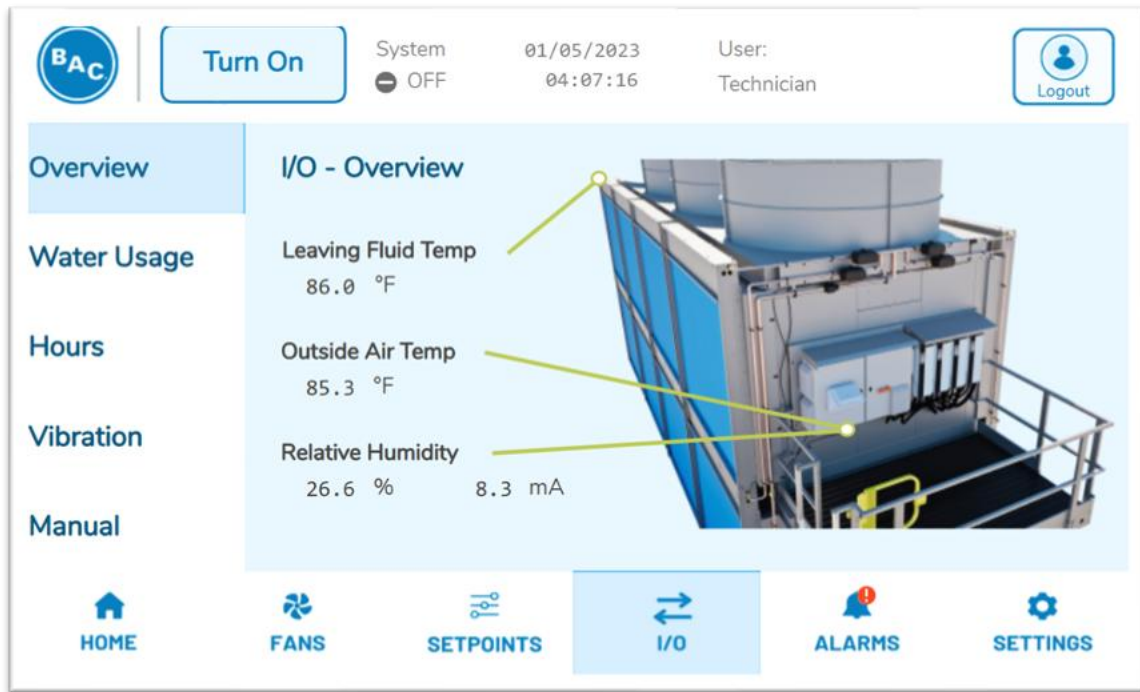
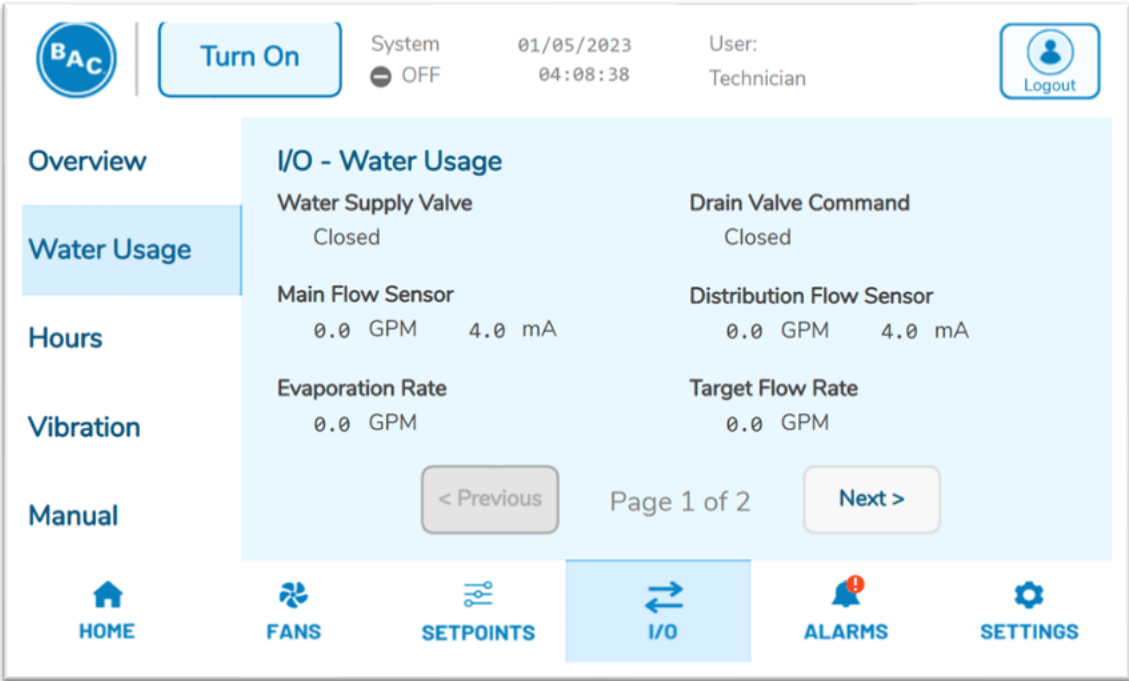
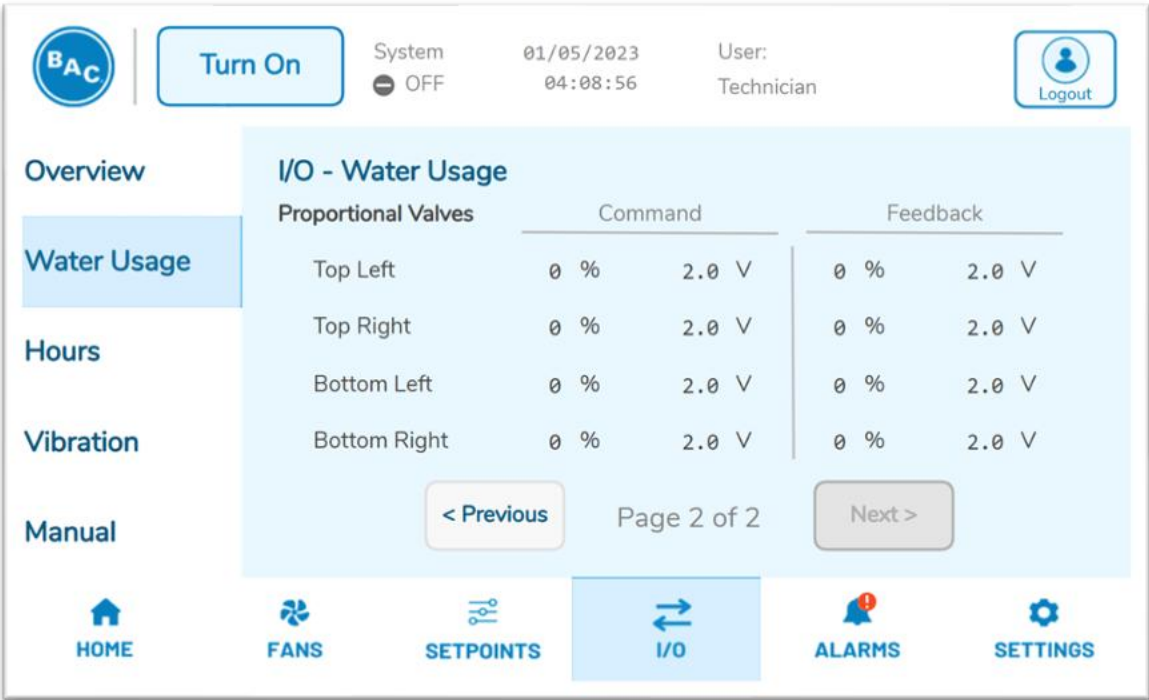

Figure 13. I/O Overview
Figure 14. Water Usage Parameters
Figure 15. Water Usage Parameters (continued)
**Overview** – This screen shown in **Figure 13** displays the following parameters:
**Water Usage** – This screen shown in **Figure 14** and **Figure 15** Figure 13 displays the following: